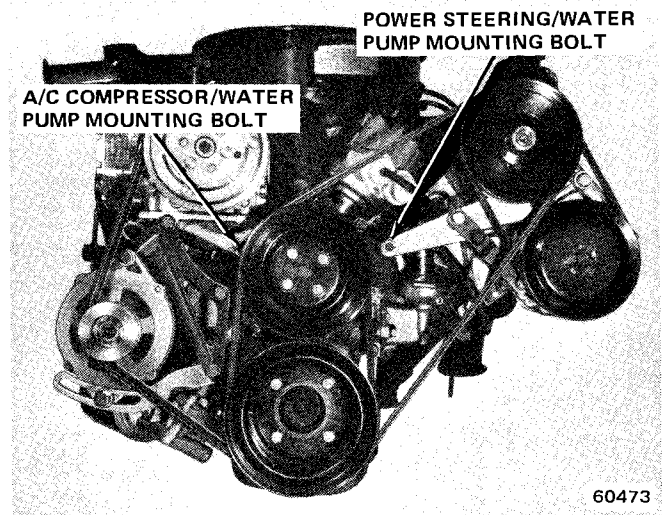

Fig. 1C-20 Water Pump Removal—Eight-Cylinder
- (4) If vehicle is equipped with radiator shroud, separate shroud from radiator.
- (5) Install one radiator/shroud screw to retain radiator.
- (6) Remove fan and hub from water pump. Remove fan and shroud, if equipped, from engine compartment.
- (7) If vehicle is equipped with air conditioning, install double nut on air conditioning compressor bracket-to-water pump stud and remove stud (fig. 1C-20).